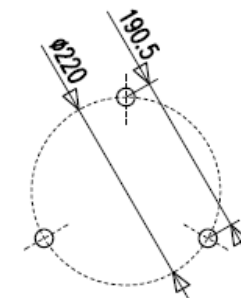

Fig 4
6. Take the anchor screws and place in the holes, aligning them exactly. (Fig. 4).
7. Tighten until the luminaire is totally secure and cannot be moved. (Fig 4).